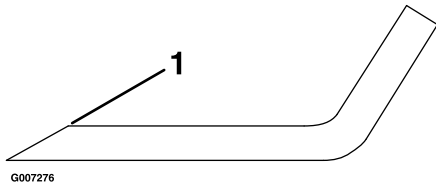

Figure 35
1. Use a file to sharpen the cutting edge at both ends of the blade (Figure 35). Maintain the original angle. The blade retains its balance if the same amount of material is removed from both cutting edges.